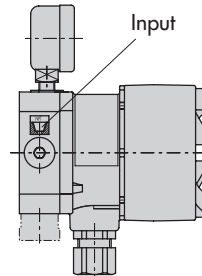

Fig. 5 · Pneumatic connection
2.4 Pneumatic connection (Fig. 5)